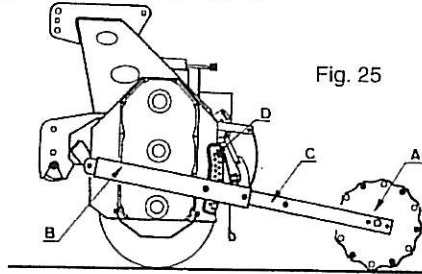

Fig. 25
Fig.25 illustrates the attachment of the crumble roller (A) mounting arm (B), the extension arm (C) and depth control system (D).